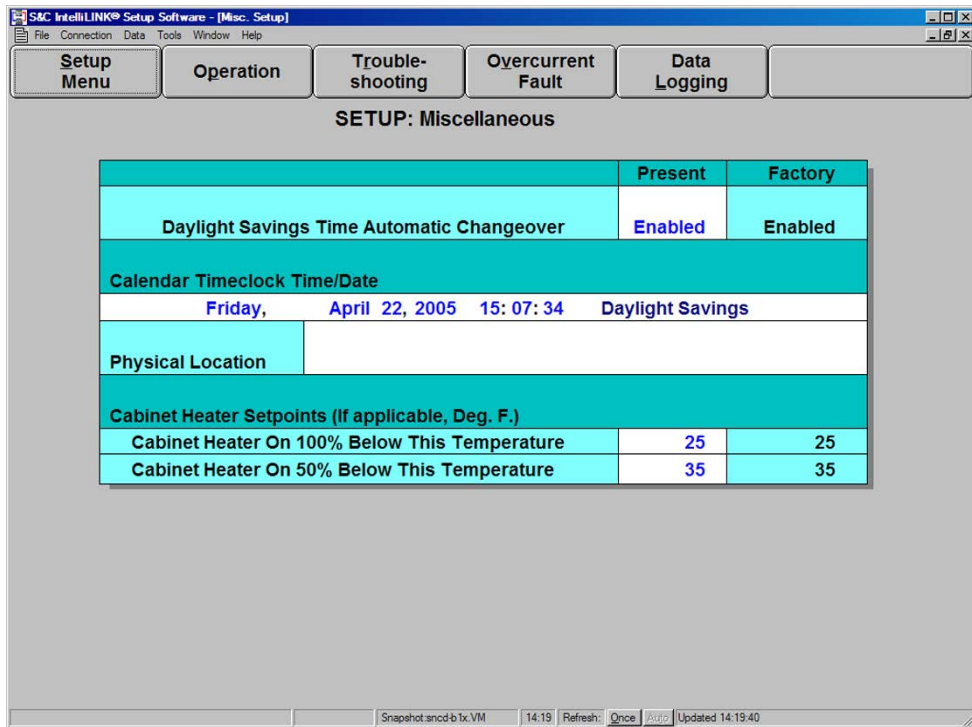

Figure 5. The Setup>Miscellaneous screen.
Follow these steps to add or change a screen value (for example, refer to the *Setup>Miscellaneous* screen shown in Figure 5 on page 11):
STEP 3. At the *Setup Menu* screen, click on the **Miscellaneous** button to open the *Setup>Miscellaneous* screen. See Figure 5 on page 11. Enter the correct values for the switch control on this screen.